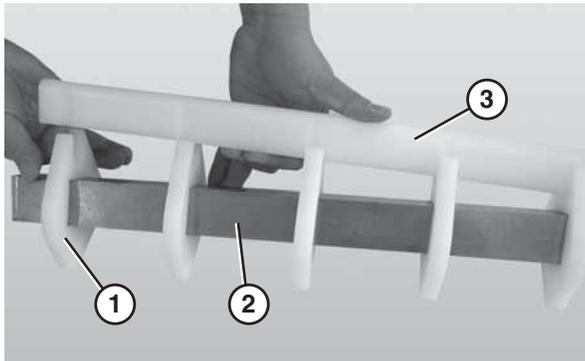

Figure 76
3. Remove the nose bar wear strip (Figure 76, item 3).
4. Slide the nose bar pucks (Figure 76, item 1) off the nose bar shaft (Figure 76, item 2).